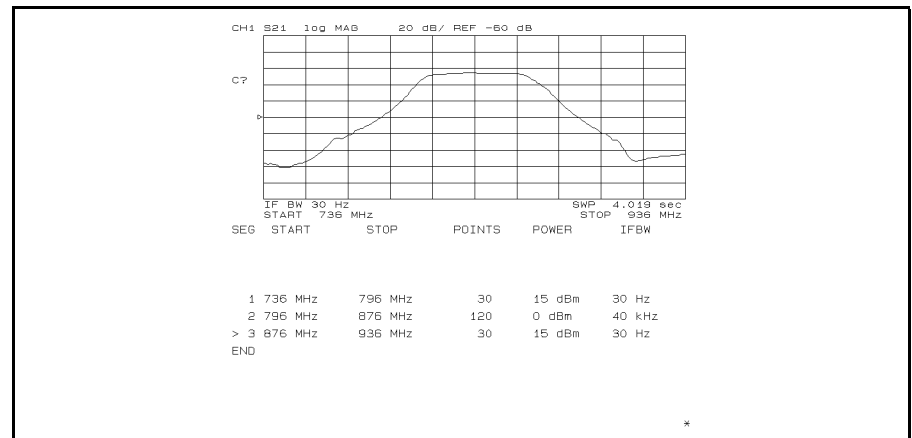

Figure 5-19. Dynamic Range Enhancement
Figure 5-19 shows the sweep list modified from the list of the previous example to improve dynamic range. Segments 1 and 2 have a narrow IF bandwidth and a higher power level for the stopband of the filter. Segment 3 has a wide IF bandwidth and lower power level for passband.
4. To modify segments 2 and 3, see Figure 5-19 for the values and modify them in a manner similar to steps 2 and 3.